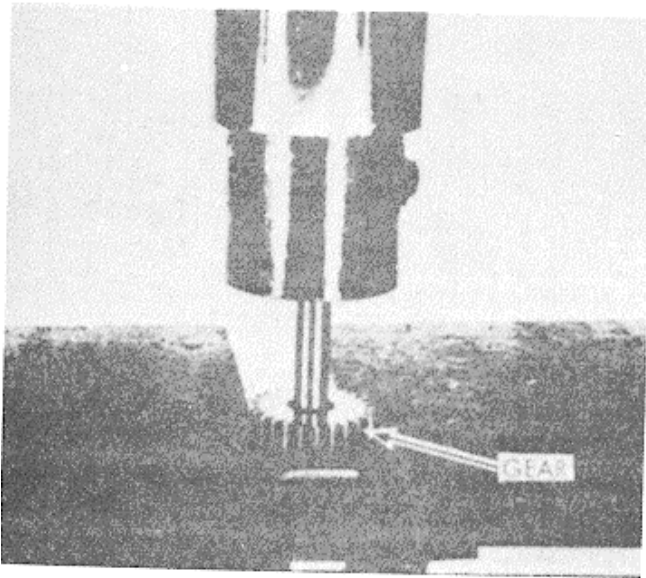

Figure 3-46. Gear removal from weight carrier.
(1) If governor gear, shaft, weights or weight carrier are damaged, press gear from shaft (fig. 3-46).